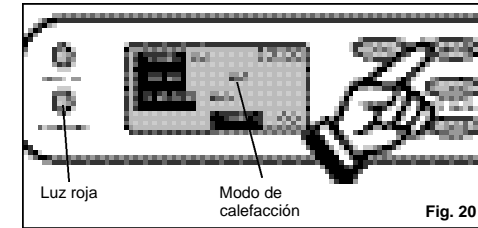

Fig. 20
1) Press the **MODE** key until the word **Heat** is displayed in the **LCD** window. *Fig. 20*. Each depression of the **MODE** key will advance to a different mode setting (**Cool-Dry-Heat-Fan**). The **red** indicator light will come on indicating the "Heating" mode is operational (there may be a slight delay of 5-10 seconds before the cycle begins, this is normal).